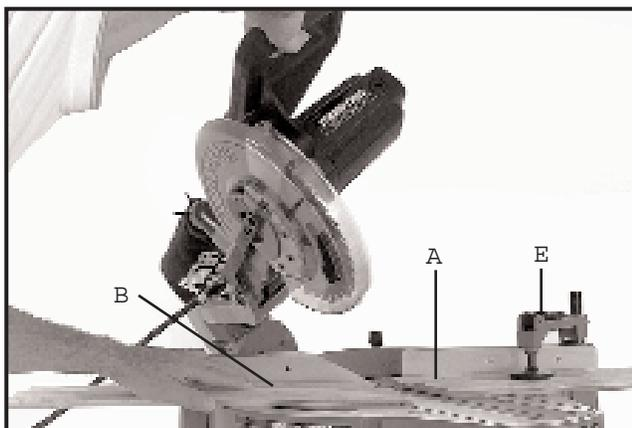
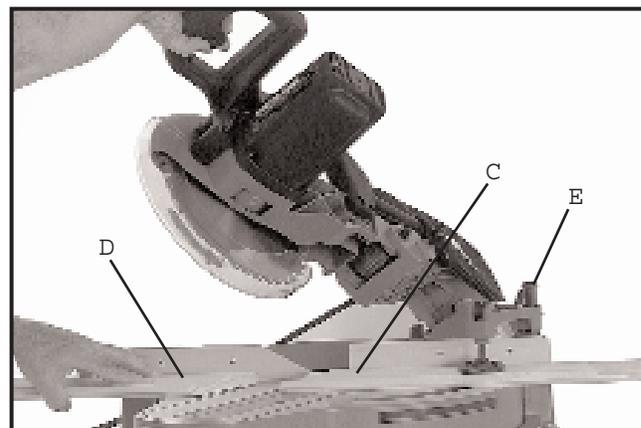
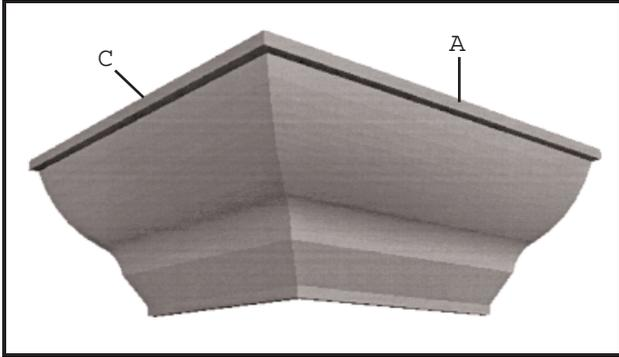
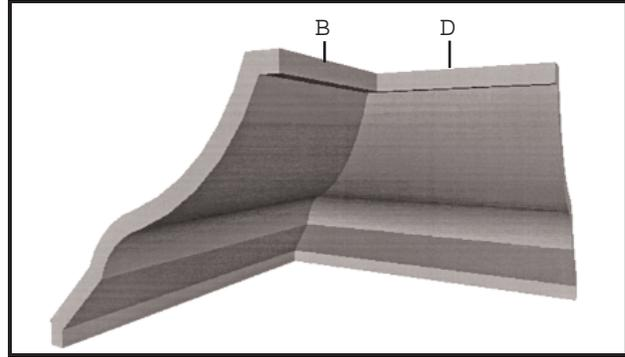

Fig. 47
Fig. 48
Fig. 49
Fig. 50
3. Place the crown moulding on the table with the CEILING EDGE of the moulding against the fence, and make the cut, as shown in Fig. 47.
NOTE: The piece of crown moulding used for the outside corner will always be on the right hand side of the blade, as shown at (A) Fig. 47. The piece of crown moulding used for the inside corner will always be on the left hand side of the blade, as shown at (B) Fig. 47. Note that the standard equipment work clamp (E) is being used to hold the workpiece in position.
5. Place the crown moulding on the table with the WALL EDGE of the crown moulding against the fence and make the cut. Again, the piece of crown moulding used for the outside corner will always be on the right side of the blade, as shown at (C) Fig. 48. The piece of crown moulding used for the inside corner will always be on the left side of the blade, as shown at (D) Fig. 48. Again, the standard equipment work clamp (E) is being used to hold the workpiece in position.
6. Fig. 49 illustrates the two outside corner pieces; (A) being the piece cut at (A) Fig. 47, and (C) being the piece cut at (C) Fig. 48.
7. Fig. 50 illustrates the two inside corner pieces; (B) being the piece cut at (B) Fig. 47, and (D) being the piece cut at (D) Fig. 48.